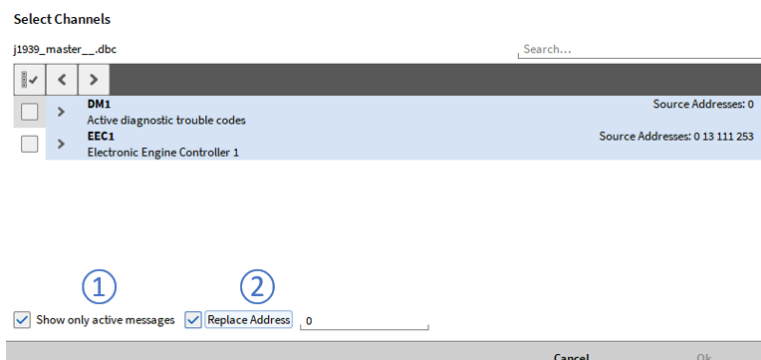

Fig. 7.208: Channel picker for SAE J1939 messages and signals
If a dbc- or arxml file is loaded that contains J1939 messages, the source Address will be displayed when Show only active messages is activated (see ① in Fig. 7.208). By Selecting Replace Address it is possible to replace the current source address of the dedicated mes- sage by a user defined one (see ② in Fig. 7.208).